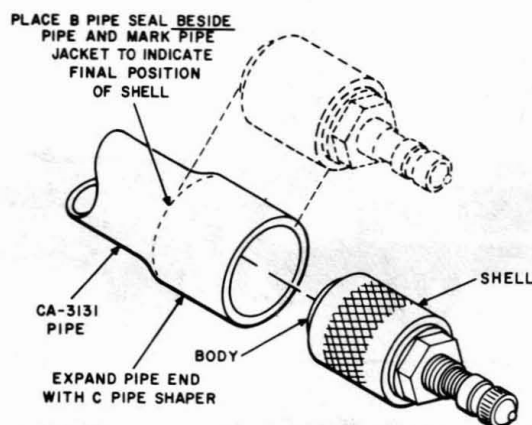

Fig. 13—Placing B Pipe Seal
- (2) Using the B pipe seal as a gauge (Fig. 13), mark the feeder pipe jacket for depth of insertion.
- (3) Loosen the nut of the B pipe seal to allow the shell to slide approximately 1/16 inch. Insert the seal into the prepared pipe end and verify the depth of insertion by checking against the mark made on the pipe jacket. Also check the position of the body inside the pipe by pressing it firmly into the pipe end. If the rubber bushing is too tight, it **may** be necessary to moisten the bushing.
- (4) Tighten the nut against the slip washer with a 9/16-inch socket from the D wrench kit.